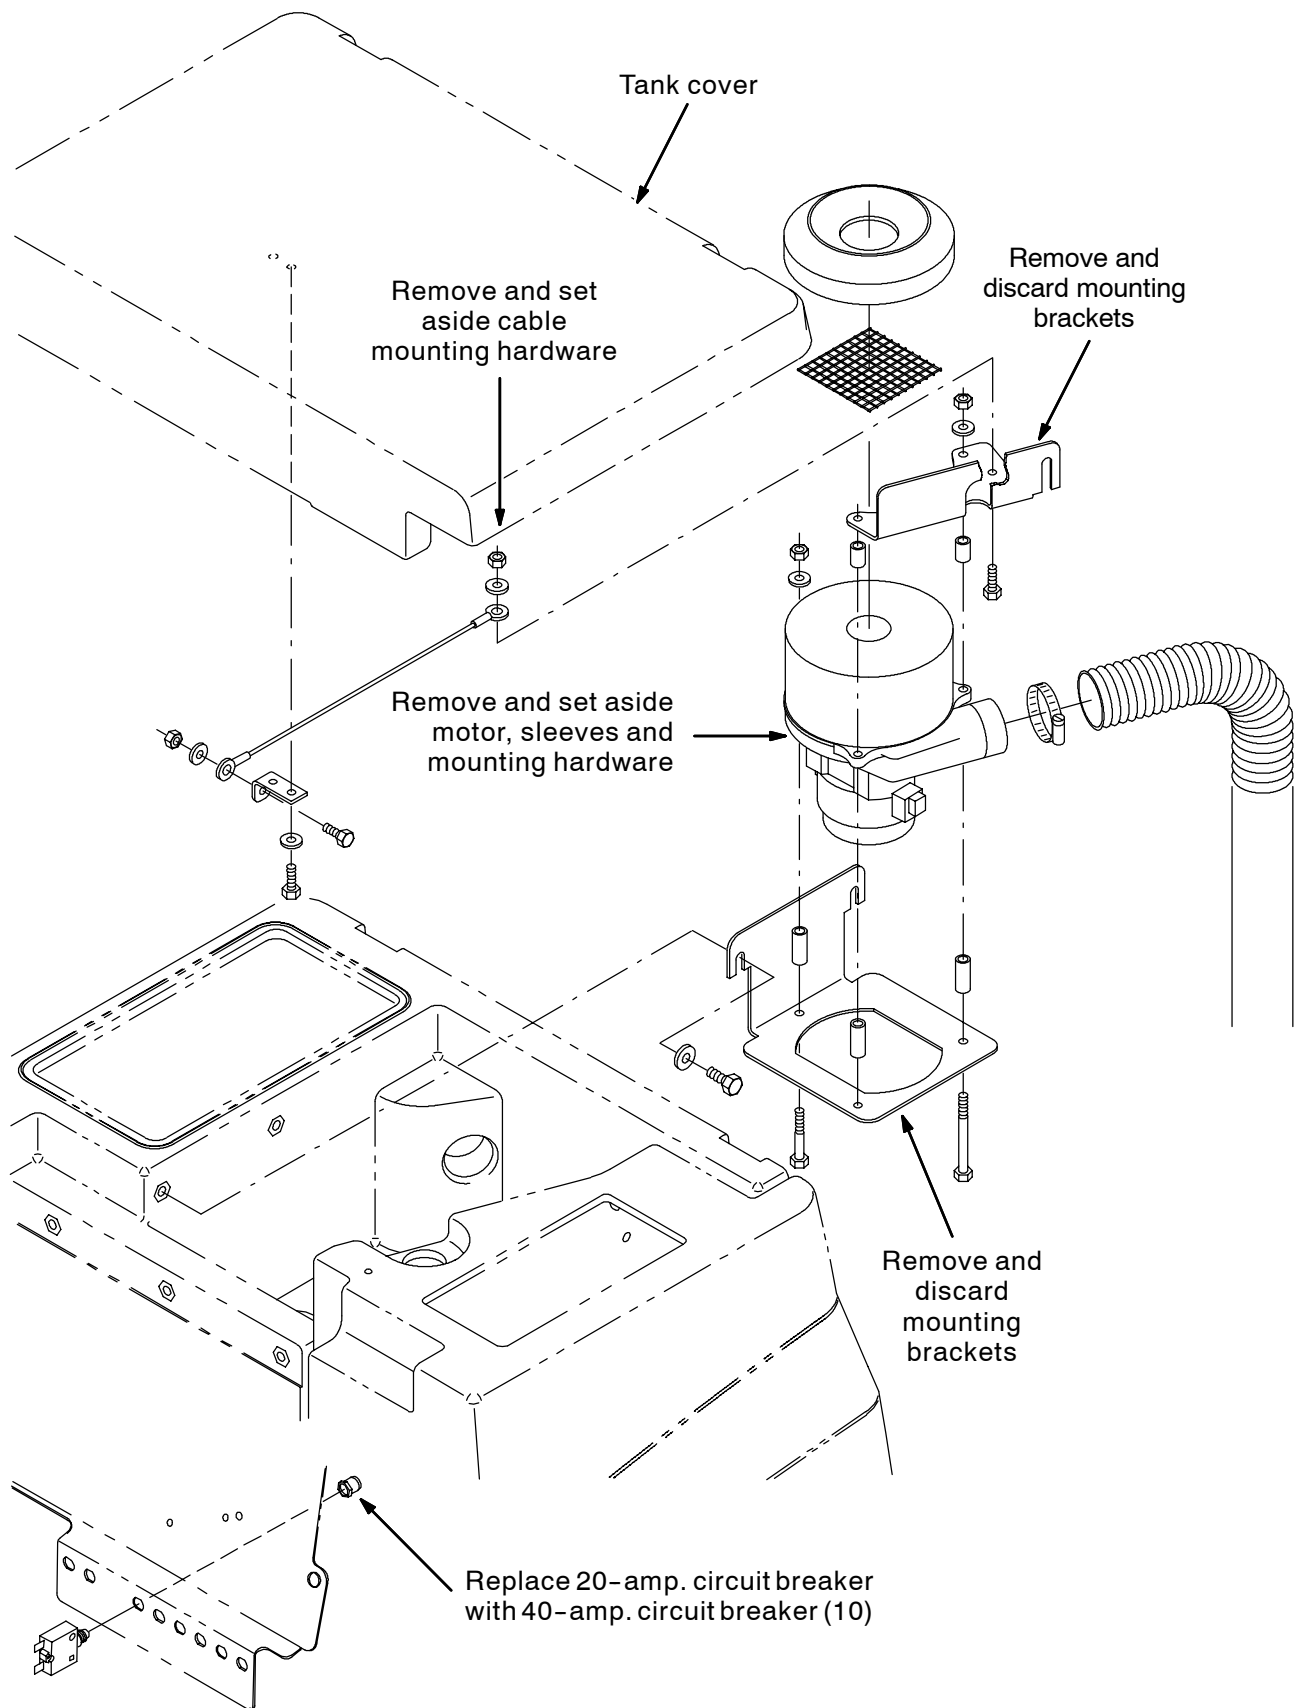

FIG. 1
1. Open the tank cover. Refer to Fig. 1.
2. Disconnect the tank cover support cable from the vacuum fan bracket. Set the mounting hardware aside. Allow the tank cover to lay back against the tank. Refer to Fig. 1.
3. Remove the two mounting bolts securing the vacuum fan assembly in the machine. Set the bolts aside. Refer to Fig. 1.
5. Loosen the vacuum hose clamp and remove the vacuum fan hose. Refer to Fig. 1.
6. Disconnect the fan harness from the main wire harness. Remove the single vacuum fan assembly from the machine. Refer to Fig. 1 and Fig. 6.
8. Disassemble the single vacuum fan assembly. Remove the vacuum fan motor from the mounting brackets. Set the vacuum fan motor, sleeves and all mounting hardware aside. Discard the single vacuum fan mounting brackets. Refer to Fig. 1.
17. Close the tank cover partially, and reconnect the hopper cover support cable to the new dual fan bracket with the set aside hardware. Close and latch the tank cover. Refer to Fig. 1.
19. Disconnect and remove the 20-amp. circuit breaker from slot 6 in the panel. Refer to Fig. 1.